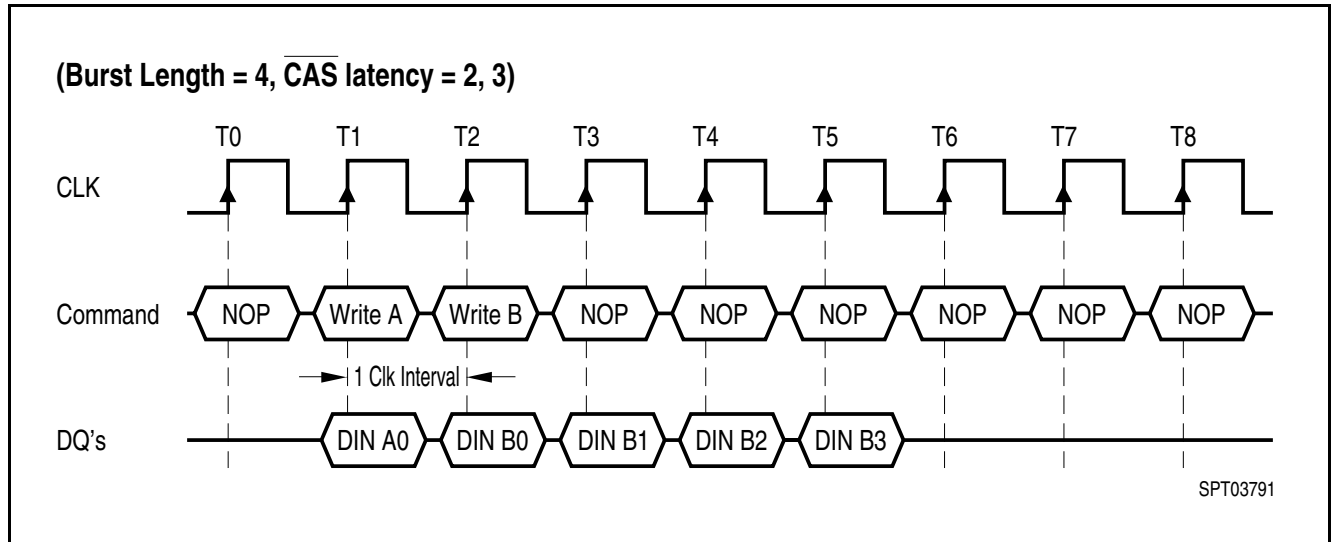

Figure 12 Write Interrupted by a Write
- **Figure 12** Write Interrupted by a Write